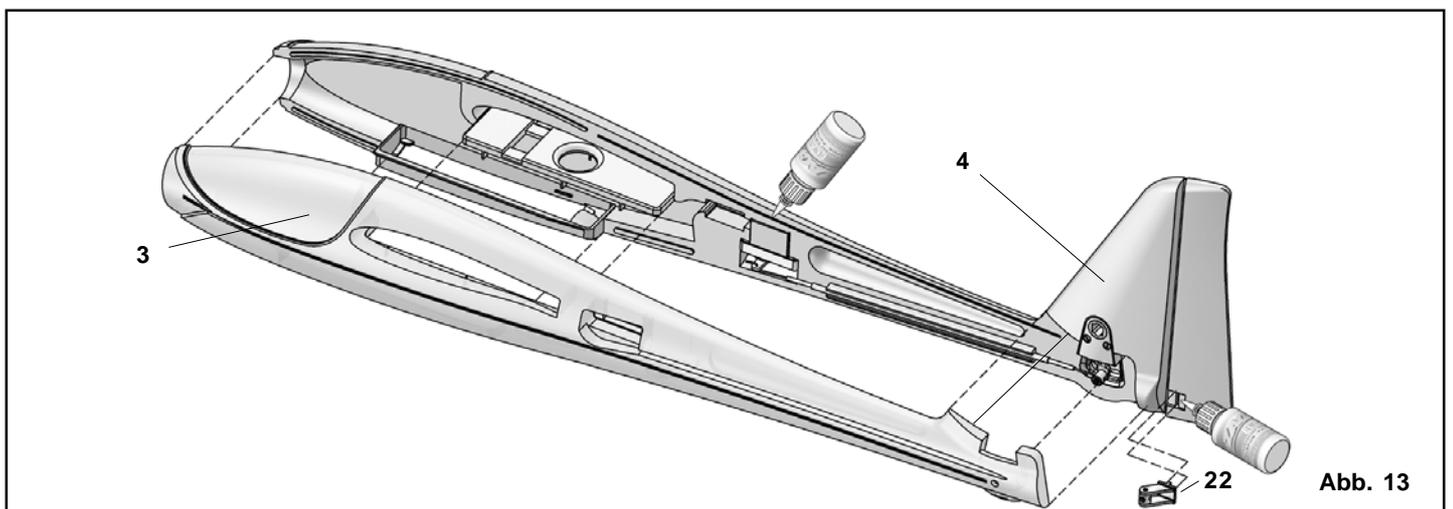

Abb. 13
3.5 Joining the fuselage shells, Fig. 13